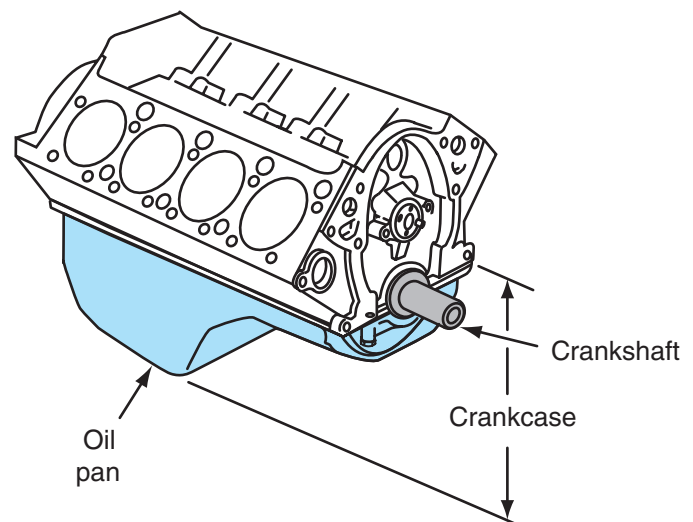

FIGURE 1.23 The oil pan encloses the crankcase.
- **Oil Pan.** The oil pan is a stamped sheet metal or cast aluminum part that encloses the crankcase (**Figure 1.23**). It provides a reservoir where the engine oil is cooled as air passes across its surface. Oil pans are sometimes damaged when driving or during engine removal and replacement. Sometimes a sheet metal oil pan can be bent enough so that the crankshaft comes in contact with it. After a rebuild, the resulting noise can cause a great deal of worry when the engine is first started.